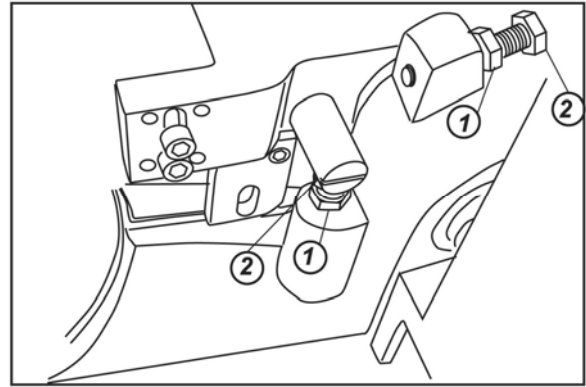

Fig.11
- Release the hex nut (1 Fig.11).
- Screw in or out the hex bolt (2 Fig.11) to adjust.